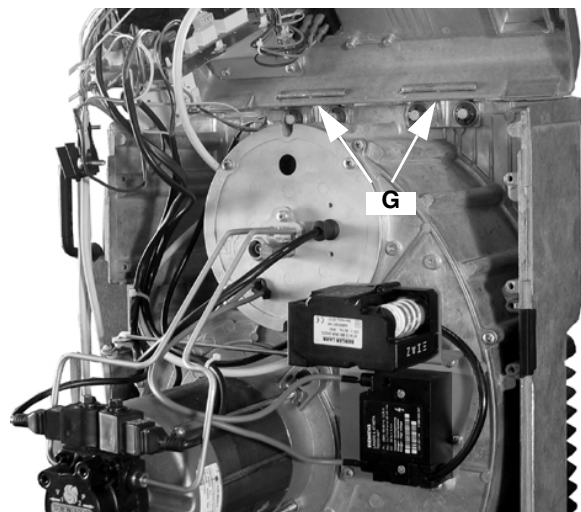

Fig. 39
- 4 Connect the control panel to the burner body using the supports G provided as shown in Fig. 39.